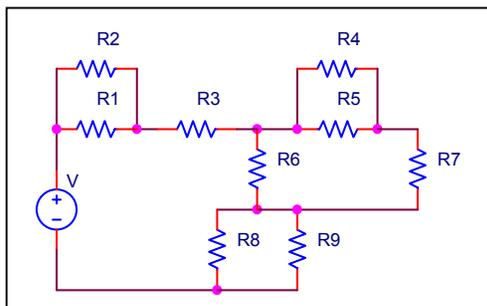
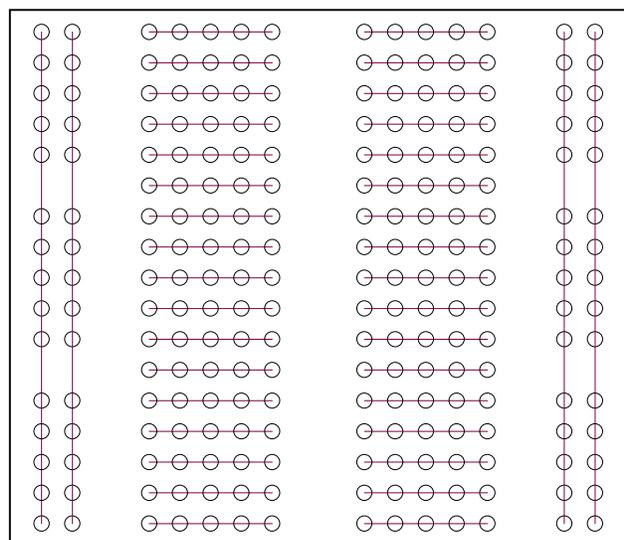

Figure 1.17. Circuit to demonstrate skills with using breadboard
Figure 1.18 Breadboard layout
- [7 MARKS] In Figure 1.18 draw a breadboard layout (i.e., a diagram similar to what is shown in Figures 1.3(b), 1.4(b) and 1.5(b)) that shows how to connect the circuit, shown in Figure 1.17.